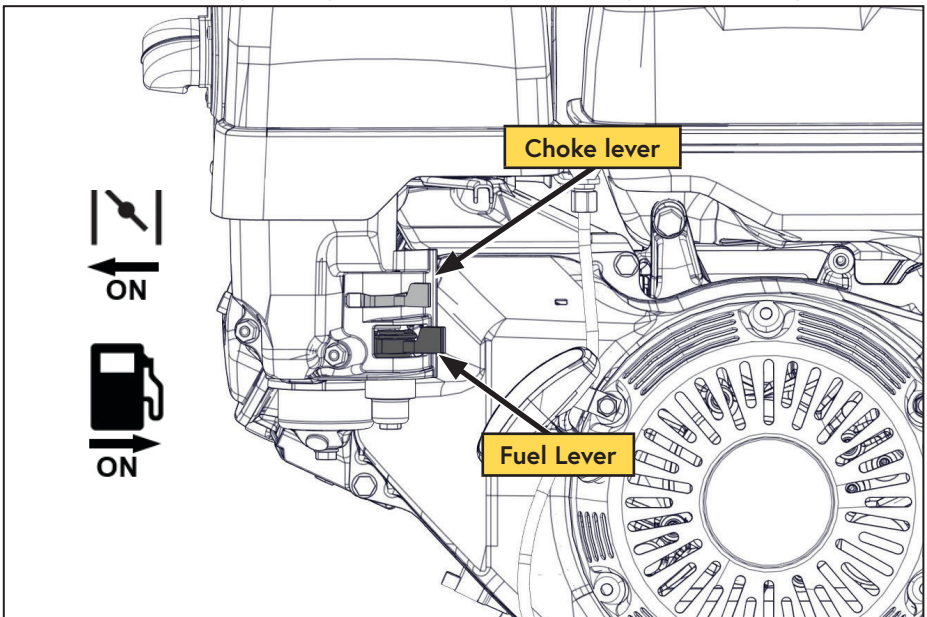

Figure 16 — Fuel and choke levers
- 3) Close the choke by moving the choke lever all the way to the left (Figure 16).
- 4) Turn on the fuel by moving the fuel shut off lever all the way to the right (Figure 16).